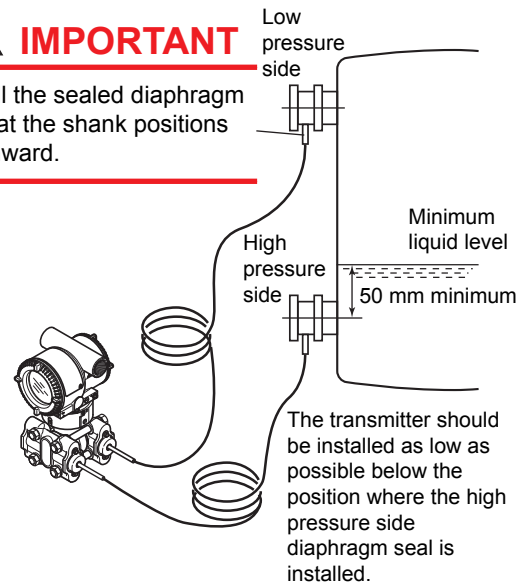

Figure 3.7 Installing the Diaphragm Seals to a Tank
When measuring the liquid level of the tank, the minimum liquid level (zero point) must be set to a level at least 50 mm above the center of the high pressure side diaphragm seal (see Figure 3.7).
- When measuring the liquid level of the tank, the minimum liquid level (zero point) must be set to a level at least 50 mm above the center of the high pressure side diaphragm seal (see Figure 3.7).